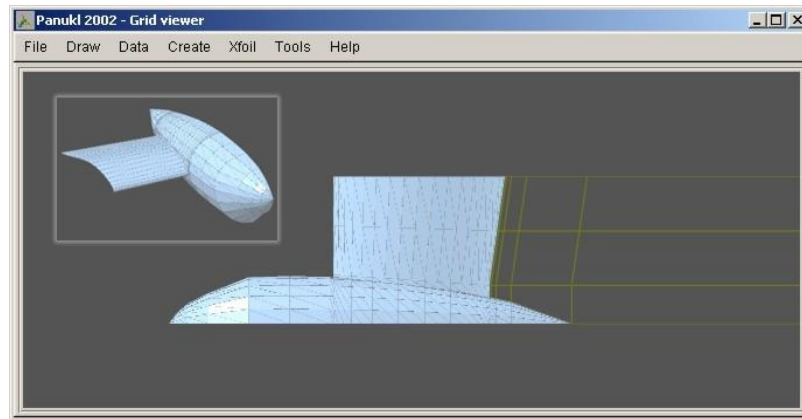

Fig. 69 – \*.dat file – next part of the complicated grid file (wing & nacelle part – left side)
**Important note:** The wing part cannot be closed with rib because the next grid part will be connected to it. In aircraft \*.ms2 definition file choose: **0** – don't close wing with rib Fig. 69.